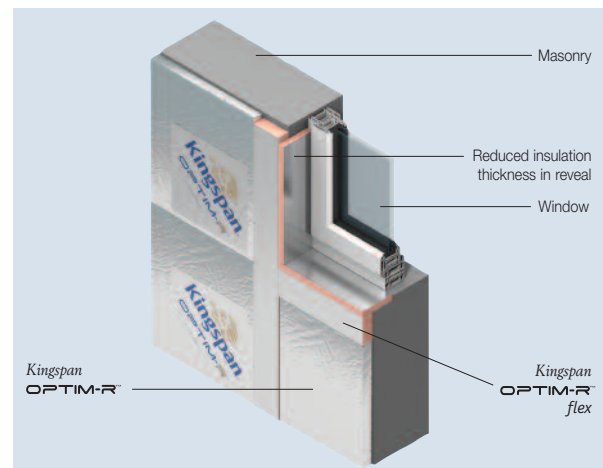

Figure 9
Reveals should be designed to accommodate the 20 mm of **Kingspan OPTIM-R flex** required to achieve an R-value of 0.6 m²-K/W, and the depth of the cladding system (see Figure 9).
- Care should be taken to install the specified thickness of insulation around reveals (see Figure 9).